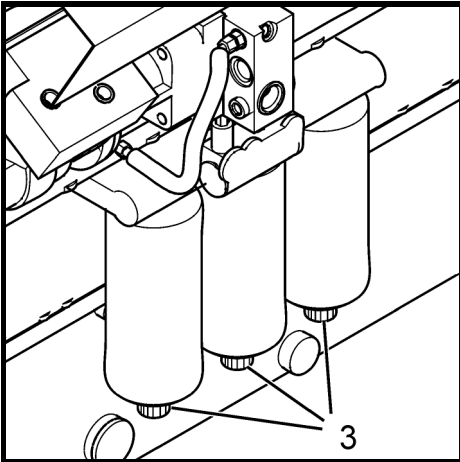

Fig. 2
Open the water separator drain valve (Fig. 2, pos 3) on the filter cartridge at the interval specified in the maintenance schedule.
PRESSURE REGULATOR AND COMPRESSOR (Fig. 2, pos. 1 and 2).